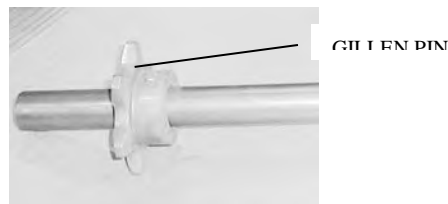

Figure 12: Gillen Pin
- C. If the headshaft turns, but the chain does not move, inspect the headshaft gillen pins or keys (Figure 12) (In some cases, a sprocket key is used instead of a pin). If the pins or keys are damaged, refer to “Removal of Headshaft Assembly” below.